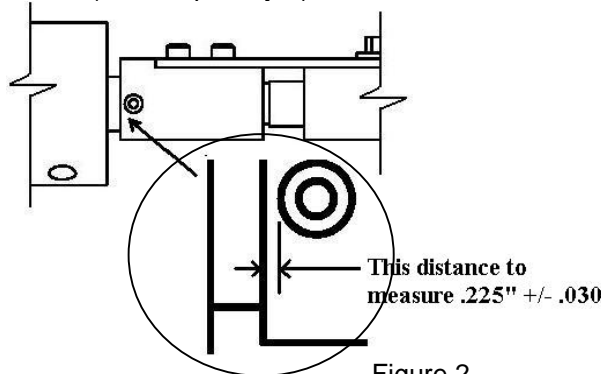

Figure 2
**Solution:** Measure the distance between the end of rod adjuster and the outer edge of the hole (Figure 2). The distance should be  $.225'' \pm .030''$ . If it is less than the acceptable minimum of  $.195''$ , order a set of replacement adjusters and pins #227793-001 (one set per dryer).